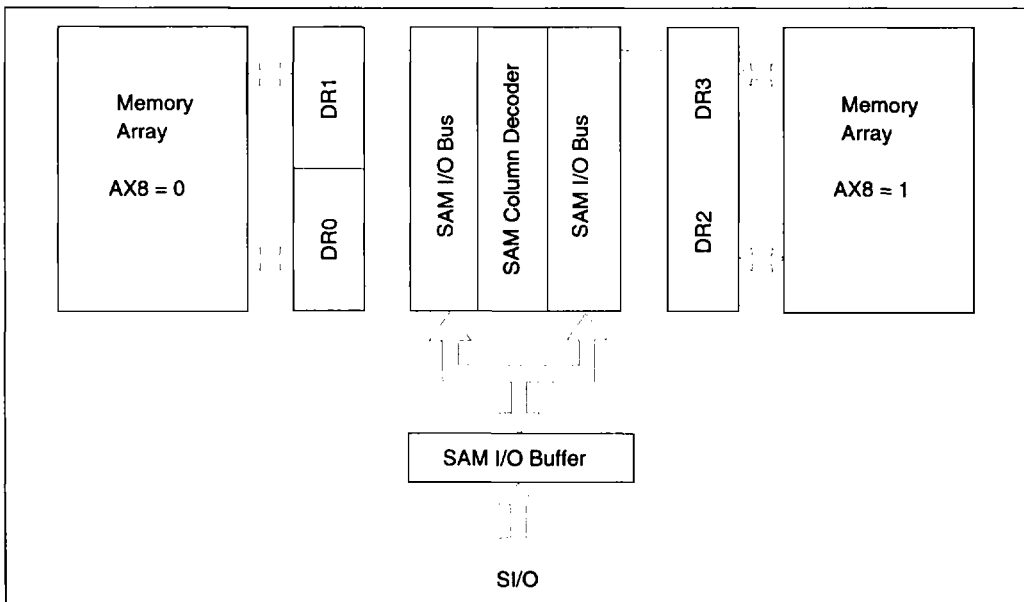

Figure 4 Split Transfer Block Diagram
Figure 4 shows the block diagram for the normal split register operation. The SAM data register (DR) consists of 2 split buffers, whose organizations are 128 words \times 16 bits each. Suppose that data is read from upper data register DR1. (The row address AX8 is 0 and SAM address A7 is 1.) When a split read transfer is executed